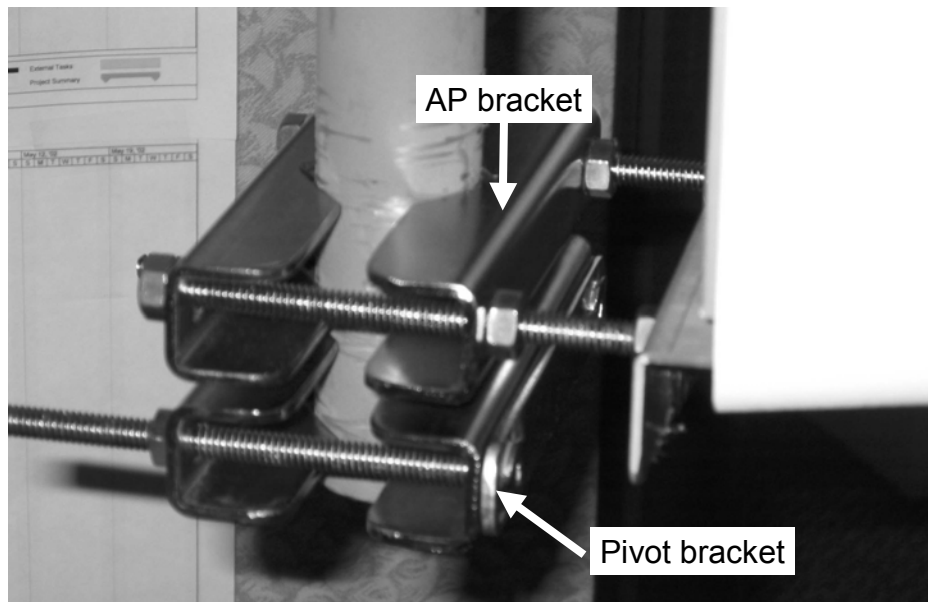

Figure 7-1: Temporary pivot bracket exactly aligned with AP bracket.
Install a spare pair of brackets below and tight up against the existing mount and align them exactly like the Access Point brackets, as shown in Figure 7-1. This spare bracket will both prevent the AP from slipping on the pipe as the bolts are loosened and will act as a pointer to align the new AP as well as supporting it vertically as it is installed.
- 3) If pole mounted, then add a spare pair of brackets under the AP, aligned exactly the same. This is a temporary guide for the new unit (see Figure 7-1).